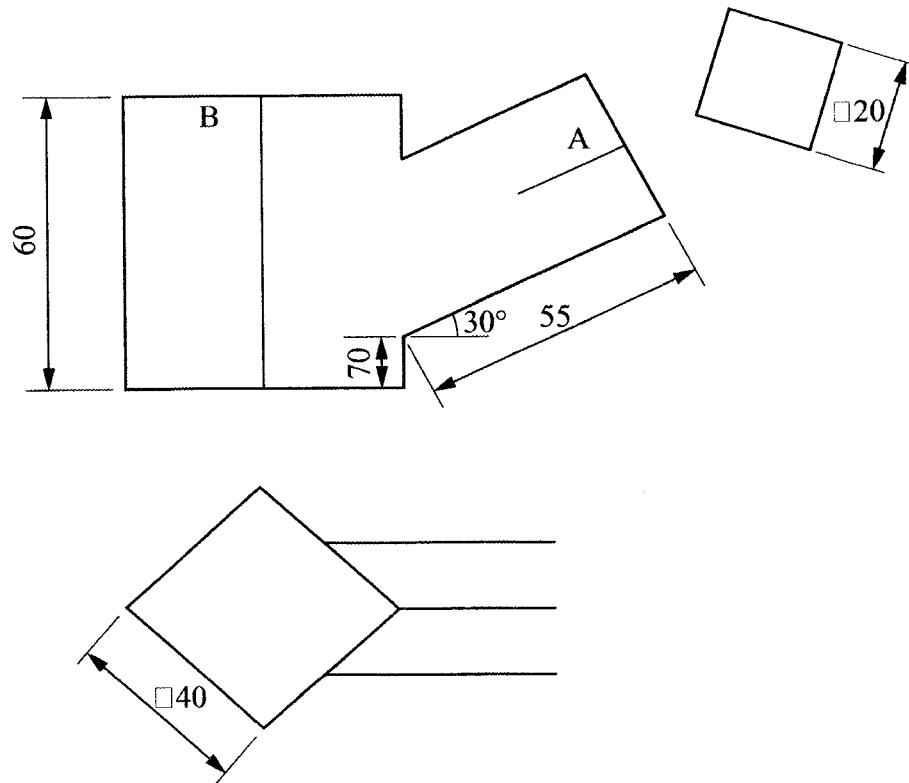

Figure 9
13. Figure 9 shows two intersecting square tubes A and B drawn in first angle projection.